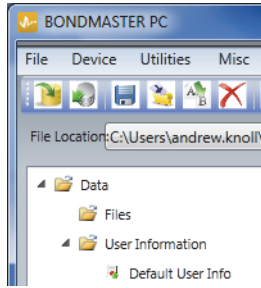
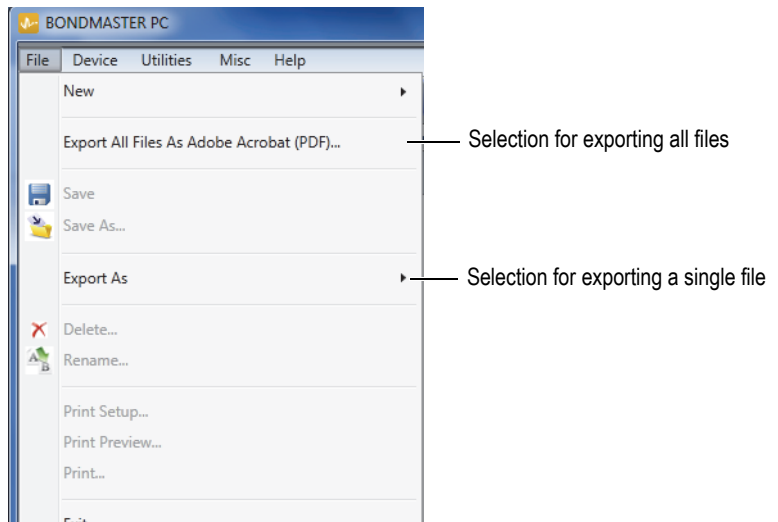

Figure 7-9 Files in the left pane of the BondMaster PC window
Figure 7-10 The File menu
- ◆ Select the file in the left pane of the BondMaster PC window (see Figure 7-9 on page 187), and then select **Export As > PDF** (see Figure 7-10 on page 187).
- ◆ On the BondMaster PC File menu, select **Export All Files As Adobe Acrobat (PDF)** [see Figure 7-10 on page 187].